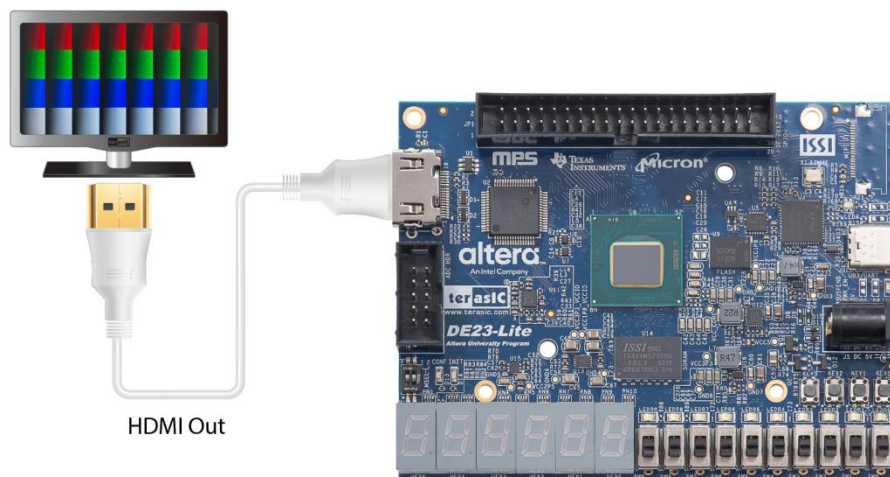

Figure 4-5 Setup for the HDMI_out_RTL demonstration
- **Figure 4-5** Setup for the HDMI_out_RTL demonstration